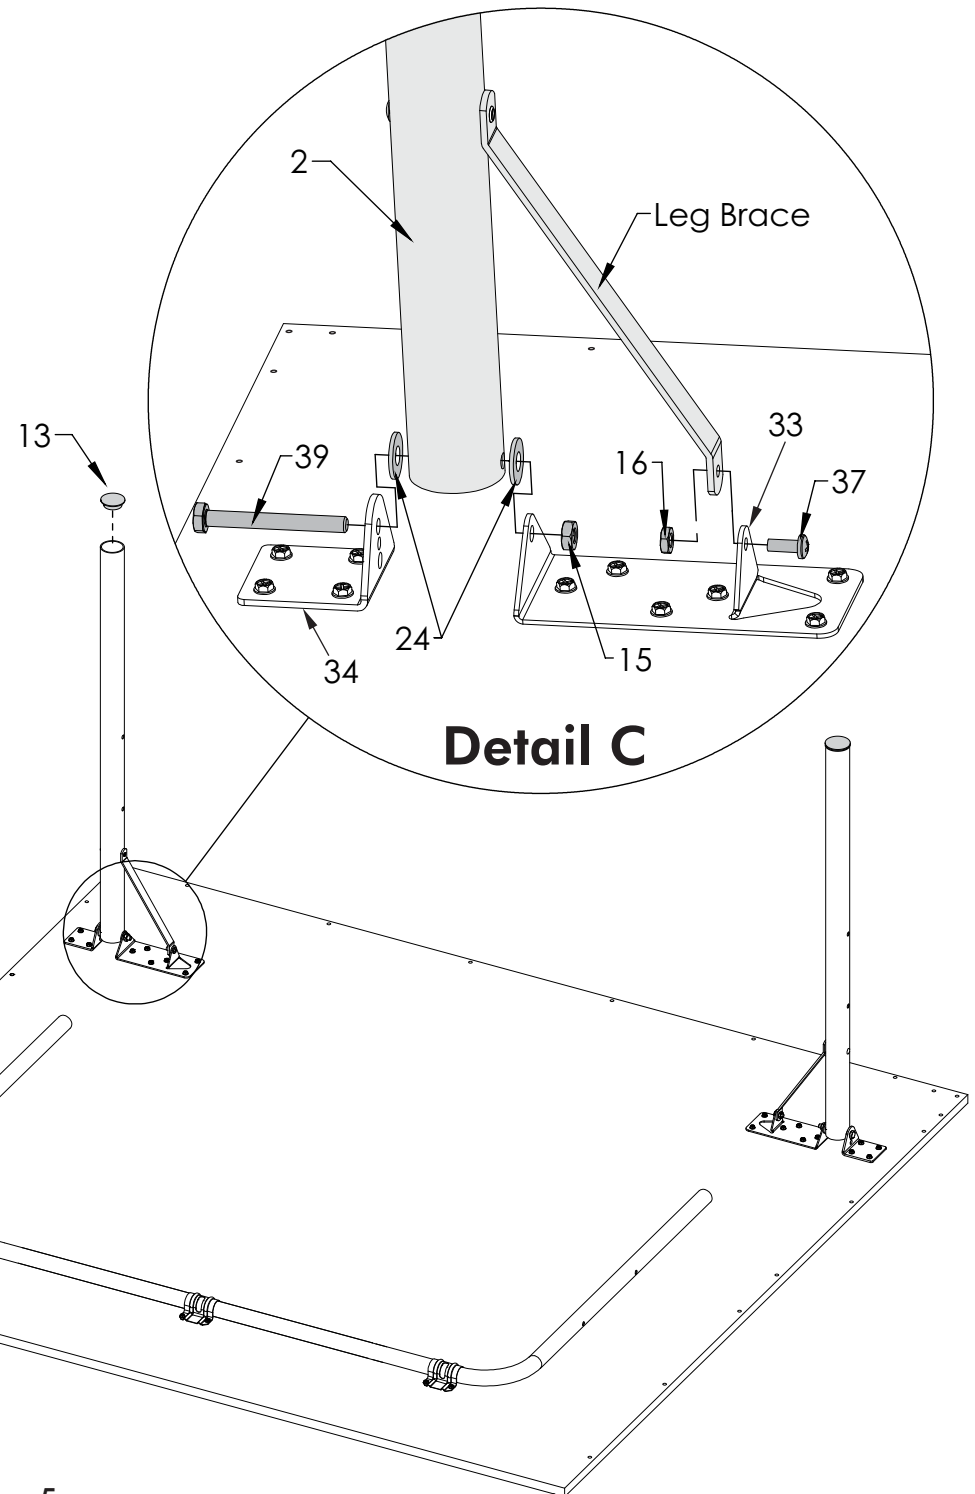

Figure 4
6. Attach Leg Plugs (#13) to bottom of the Legs (#2) as shown in **Figure 4**.